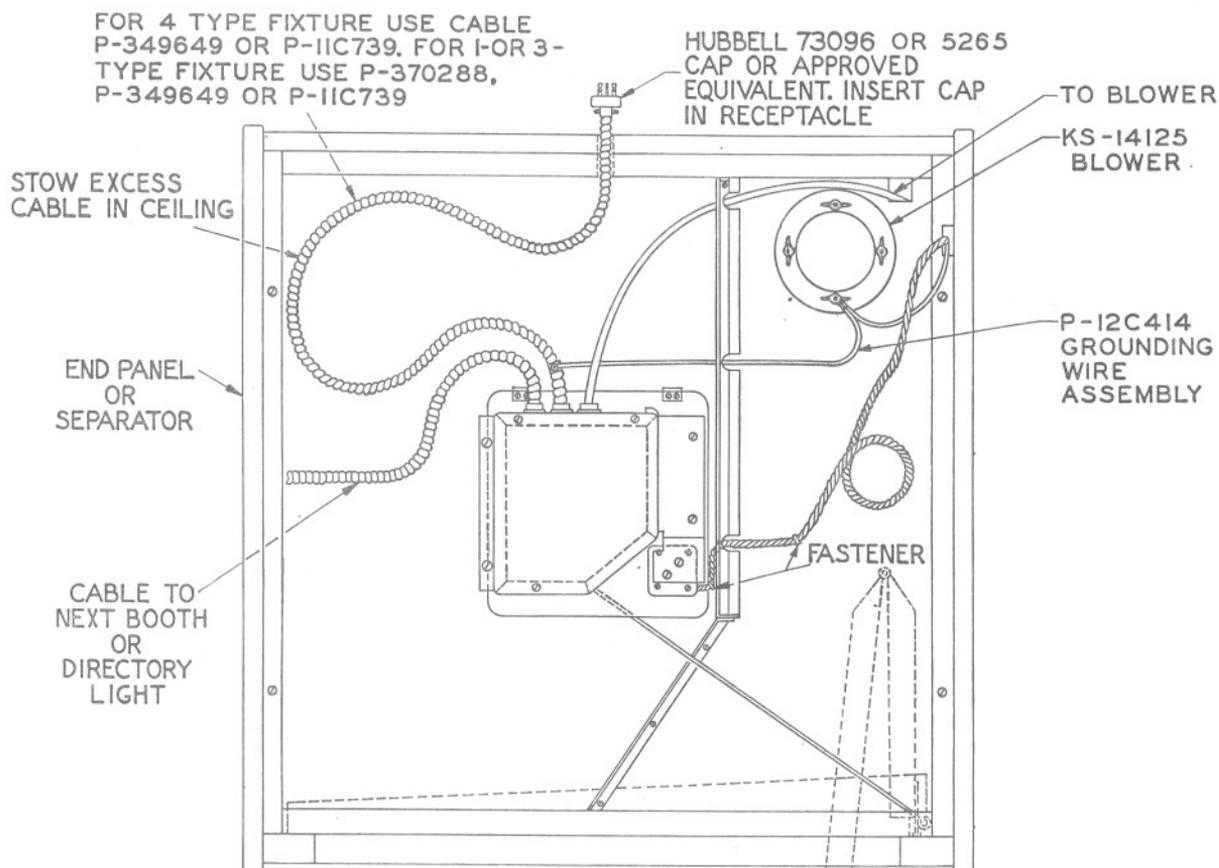

Fig. 6 — Typical Installation for 3-way Receptacle
5.08 Fig. 6 shows the 2-conductor armored flexible cable which shall be used to connect the 3-way receptacle and the booth lighting equipment.